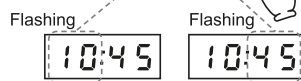

Fig. 6-3
- The first two digits of hour will start to flash on the display (Fig. 6-3)